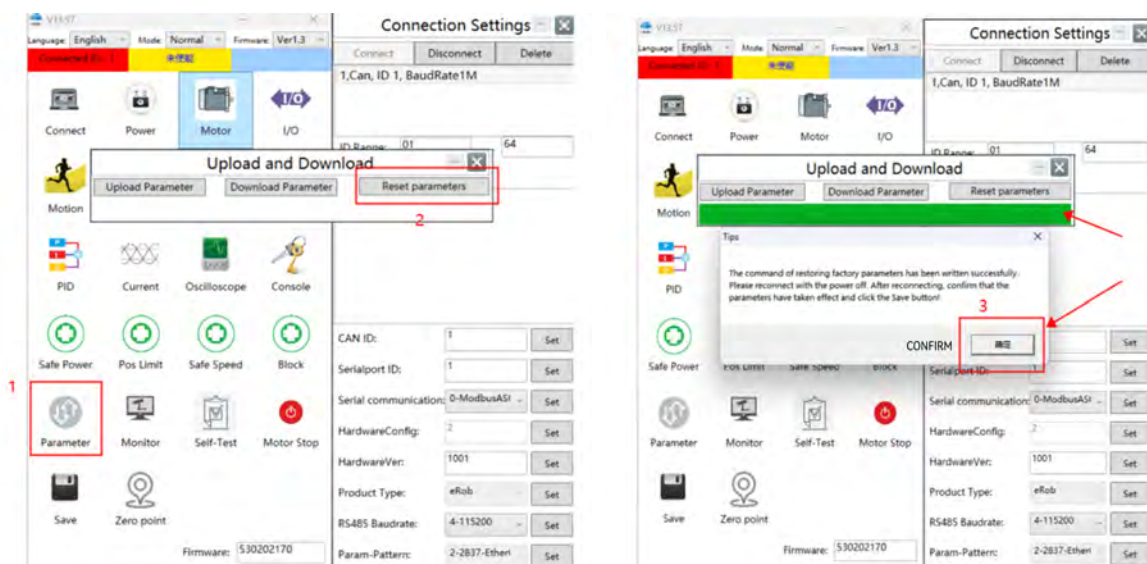

Figure 20-1 Operation of Restoring Factory Parameters
The operation steps of restoring factory parameters are as shown in Figure 20-1.
- (1) Connect eTunner (refer to YouTube Tutorial) and then click “Parameter”, the “Upload and Download” window pops up.
- (2) Click “Reset parameters” and wait until the progress bar is completed. Click “Confirm” in the “Tips” window as shown in Figure 20-1.
- (3) Power off and restart, reconnect in the “eTunner” software, confirm the parameters are restored. Then click “Save” to save the restored parameters.